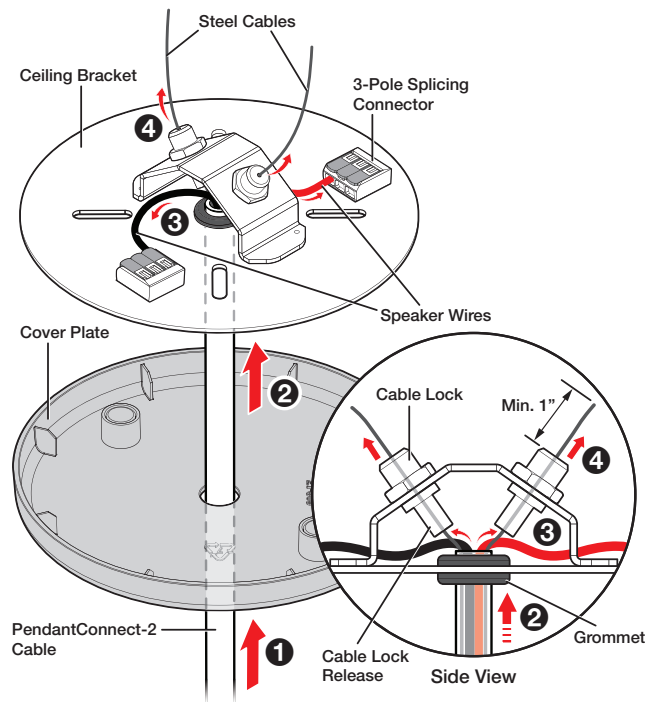

Figure 24. Installing Bulk Cable at Ceiling Bracket
1. Measure the distance from the floor to the bottom of the ceiling bracket (value **A**) (see **figure 24** on page 22).